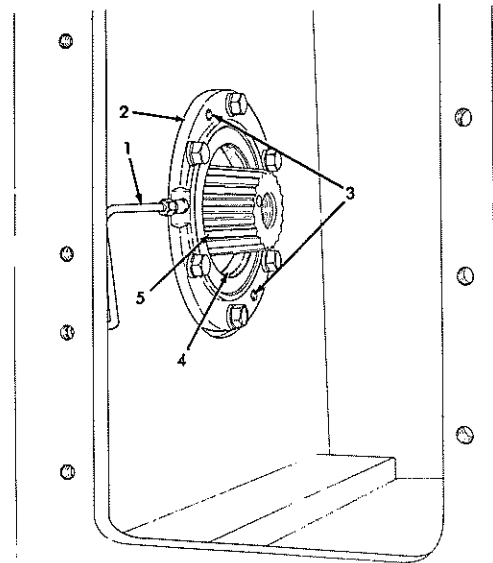

Fig. 10 -- Final Drive Pinion Inner Bearing Cage Installed (T-41454)
2. Models with oil type steering clutches, remove breather tube assembly Fig. 10 (1). All models, use pusher screws to remove bearing cage (2), oil seal (4), and inner bearing cup as an assembly.